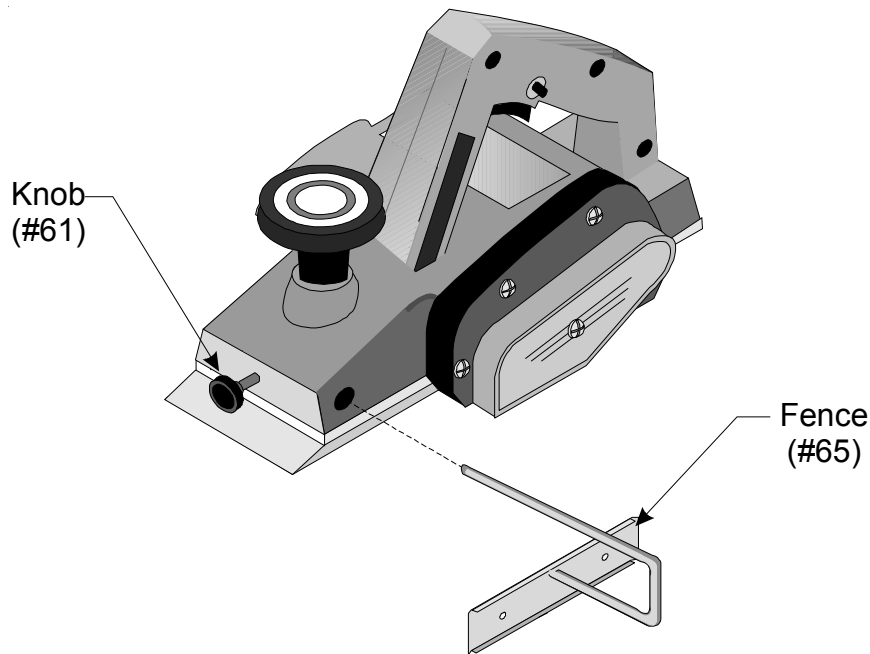

Figure 2 — Using the Fence
Step 3: To install the FENCE, first loosen the front KNOB (#61) by turning it counterclockwise. (See Figure 2.)
Step 4: Insert the fence into the hole as shown in Figure 2.